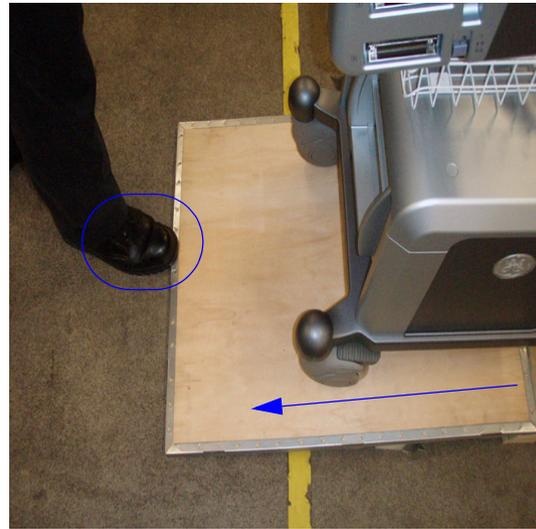

Figure 3-4 Pull the Docking Cart
- 5.) Put forks in front of the platform, refer to Figure 3-4 on page 8 .
- 6.) Put one of lateral plate on the 2 to make a bevel, refer to Figure 3-4 on page 8
- 7.) Unlock the wheels of docking cart and pull the cart through the bevel, refer to Figure 3-4 on page 8 .
NOTE: *When pull docking cart from the bevel, fix the bevel with one foot, refer to Figure 3-4 on page 8 .*